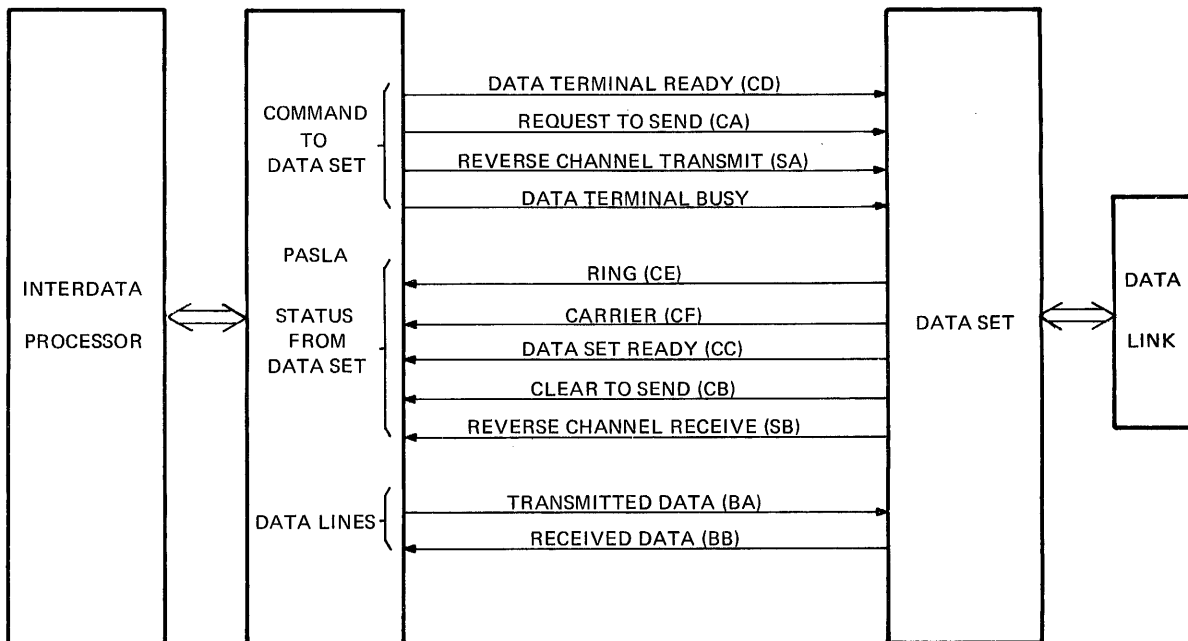

Figure 2. PASLA – Data Set Communication Lines
Refer to Figure 2 for PASLA – Data Set Communication lines.
$\overline{\text{CL2S}}$ The lack of Clear to Send signifies that the modem can no longer transmit data. In the Write Mode, this status bit set indicates that Clear to Send (CB) is not being received from the data set. See Figure 2. This condition also forces BSY=1 on the Transmit Side. A Transition from $\overline{\text{CL2S}}=0$ to $\overline{\text{CL2S}}=1$ causes an interrupt if enabled.
- CARR OFF CARR OFF is ONE to indicate that no valid incoming data is being received. In the Receive side, this bit is ONE to indicate that CARRIER (CF) is not being received from the data set (see Figure 2). In the Write mode, this status bit is ZERO when REQUEST TO SEND (CA) is active. A transition of this status bit in either direction causes an interrupt, if enabled.
- RING RING is ONE when the RING (CE) signal from the data set is active. This indicates the reception of a call. An interrupt is generated, if enabled, when RING changes to ONE. In 4-wire operation, RING is always ZERO on the Transmit (Send) side. The Ring status represents the present state of the equivalent data set signal. See Figure 2.
DATA TERMINAL READY (CD) to the data set. When this command bit is set, CD is turned ON, allowing automatic answering of an incoming call. This line must be ON to permit the data set to enter and remain in the data mode. When this bit is reset, it does not permit automatic answering of an incoming call and causes an existing connection to disconnect if held reset for a period specified by the manufacturer of the data set. See Figure 2.
When this bit is set, data received from the data set is transmitted back to the data set on the TRANSMITTED DATA (BA) line. See Figure 2. The PASLA also assembles the character as in the normal data mode. This feature is normally used for 4-wire HDX operation in the Read mode to provide visual verification at the terminal of the data received by the computer. This command must not be issued to the transmit side. Note that in the 2-wire HDX Read mode the RQ2S line is not active. If the associated data set requires RQ2S to be active, the data will not pass to the communication link. This bit takes effect immediately. Therefore, a Write to Read (with Echo-Plex) mode change requires transmitting X'FF' (an ASCII DEL character) as the last character.
RCT (Reverse Channel Transmit) (SA) is optional on 202C-type data sets, DTB (Data Terminal Busy) is optional on 103-type data sets. See Figure 2. For Reverse Channel Transmit option, this command bit is gated directly to the Secondary Transmitted Data (SA) line. See Figure 2. When this bit is set, RCT is OFF, i.e. Reverse Channel is not transmitted. When this bit is reset, RCT is ON, i.e. Reverse Channel is transmitted. For data sets equipped with the Data Terminal Busy option, the reset condition of this command bit will "busy-out" the terminal thereby not allowing a call to be answered and returning the Busy signal to the calling terminal.
This command bit controls REQUEST TO SEND (CA) to the data set. See Figure 2. When this bit is set, REQUEST TO SEND is gated to the data set if DATA SET READY* (CC) is active. When this bit is reset, the hardware deactivates REQUEST TO SEND (CA) after the following delays: If character transfers are in progress, the hardware insures that the last character has been transmitted, then delays one millisecond to permit the last data bit to clear the data set before dropping REQUEST TO SEND (CA) except as noted under ECHO-PLEX. BSY is set during this line turn-around and does not reset until a character is received. However, CL2S, CARR OFF, RING, RCR, and DSRDY may still generate interrupts, if enabled. See Figures 3 and 4. In 2-wire operation, setting this bit places PASLA in the Write mode; resetting this bit places PASLA in the Read mode. In 4-wire operation, this bit is normally programmed set except noted under DIS, EN above.